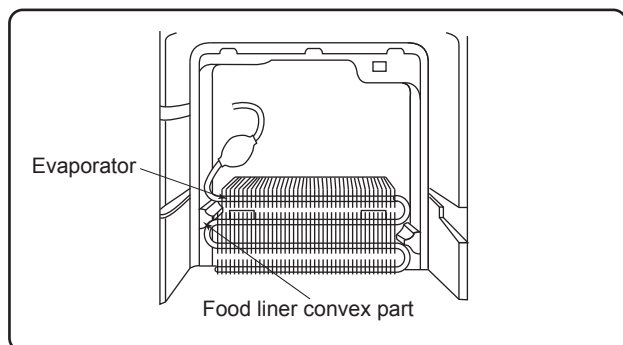
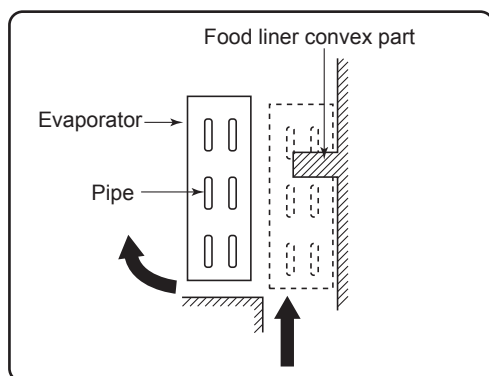

Figure A-1
Figure A-2
3. As shown in Figure A-2, pull the upper part of Evaporator toward you, pull it diagonally so that the pipe of Evaporator does not contact the convex part of food liner.
1. Install Evaporator as shown in the Figure A-1 in the reverse order of Figure A-2.